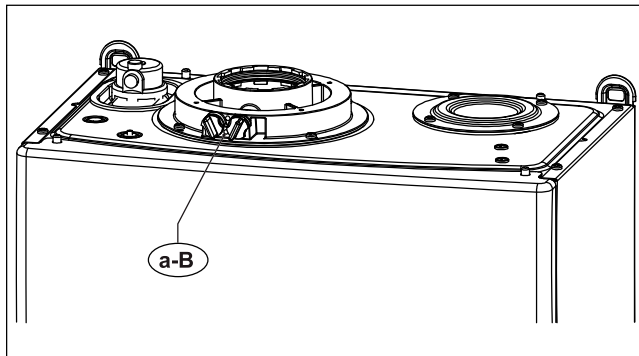
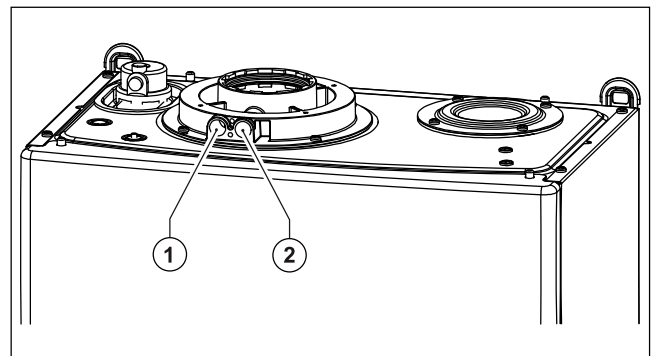

Fig. 15 Plugs position
Fig. 16 Hole position
The boiler is equipped with a tower allowing for air intake/flue gas venting pipe connection (see Fig. 15 Plugs position and Fig. 16 Hole position).
The tower is designed with two pre-arranged openings directly accessing air and flue gas ducts (see Fig. 16 Hole position).
Remove caps **A** and **B** from the pre-arranged openings on the tower, before starting combustion checking procedure (see Fig. 15 Plugs position).
- assess combustion air from opening **1** (see Fig. 16 Hole position).
- assess flue gas temperature and CO₂ from opening **2** (see Fig. 16 Hole position).